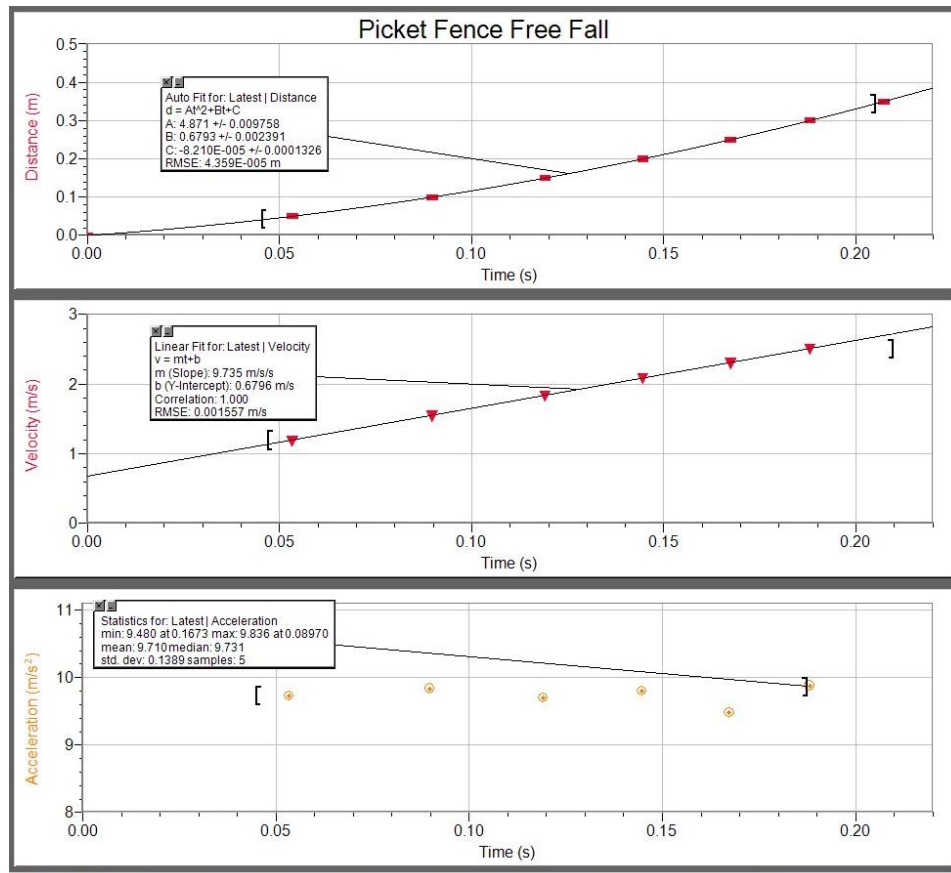

Figure 2: Example data shown, note all axes and fit ranges are adjustable.
Setup and test the Logger Pro Software to display position, velocity, and acceleration and corresponding fits to the data with the fit parameters displayed on screen as shown in Figure 2.
- A) Open the Logger Pro software file called: “225-FreeFall.cmb”. It should look similar to Figure 2 and may or may not have data displayed in it already. There should be inset boxes for the data fit parameters that will fill in after data is taken.